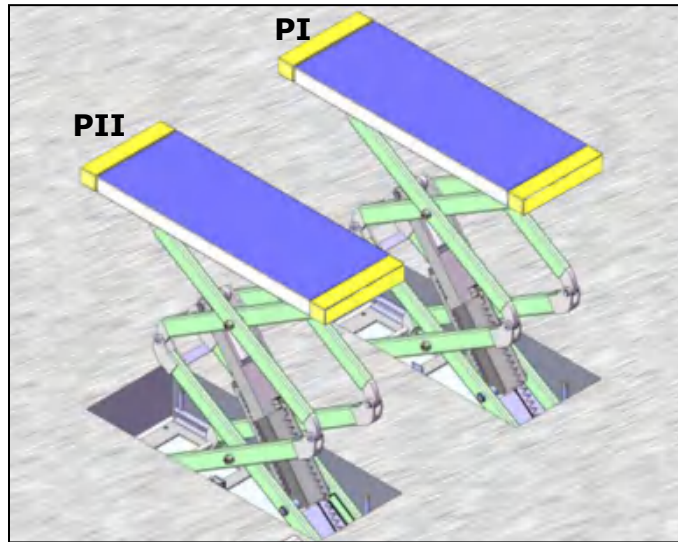

Fig. 8
1. Layout the equipment with forklift or other equipment to the location according to **Step B**. Lift the equipment to about 1 meter high for oil system and air line system installation (See Fig. 8).